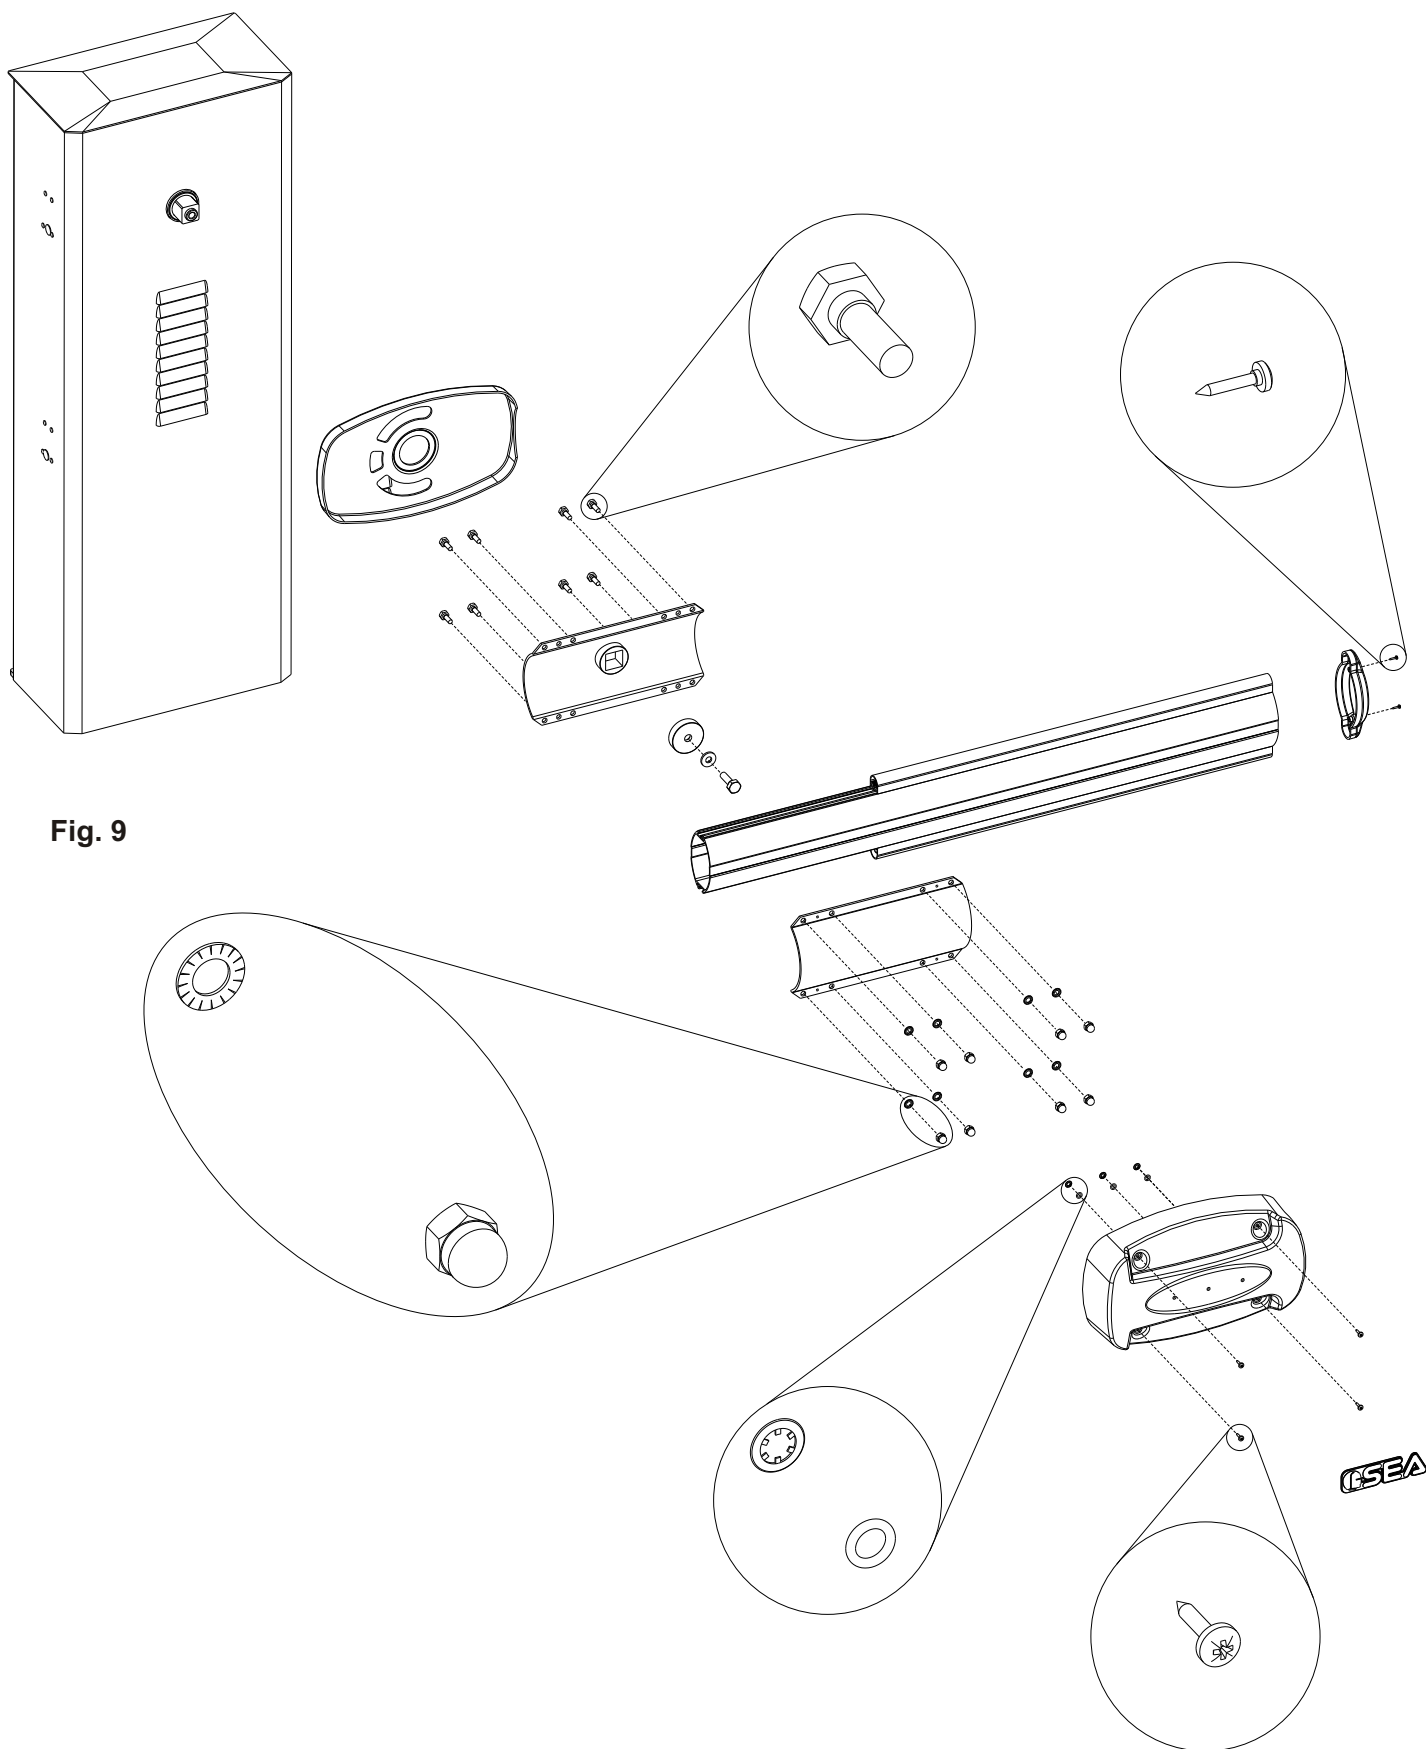

Fig. 9
6) Mounting of the B Light beam (Fig. 9)